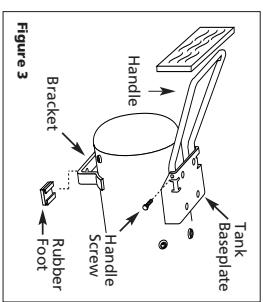

Figure 3
2. Insert handle into both sides of tank baseplate. Squeeze handle to fit into special openings in baseplate (See Figure 3).
5. On some models rubber feet are included. Slip feet onto bracket (See Figure 3).
On some models rubber feet are included. Slip feet onto bracket (See Figure 3).